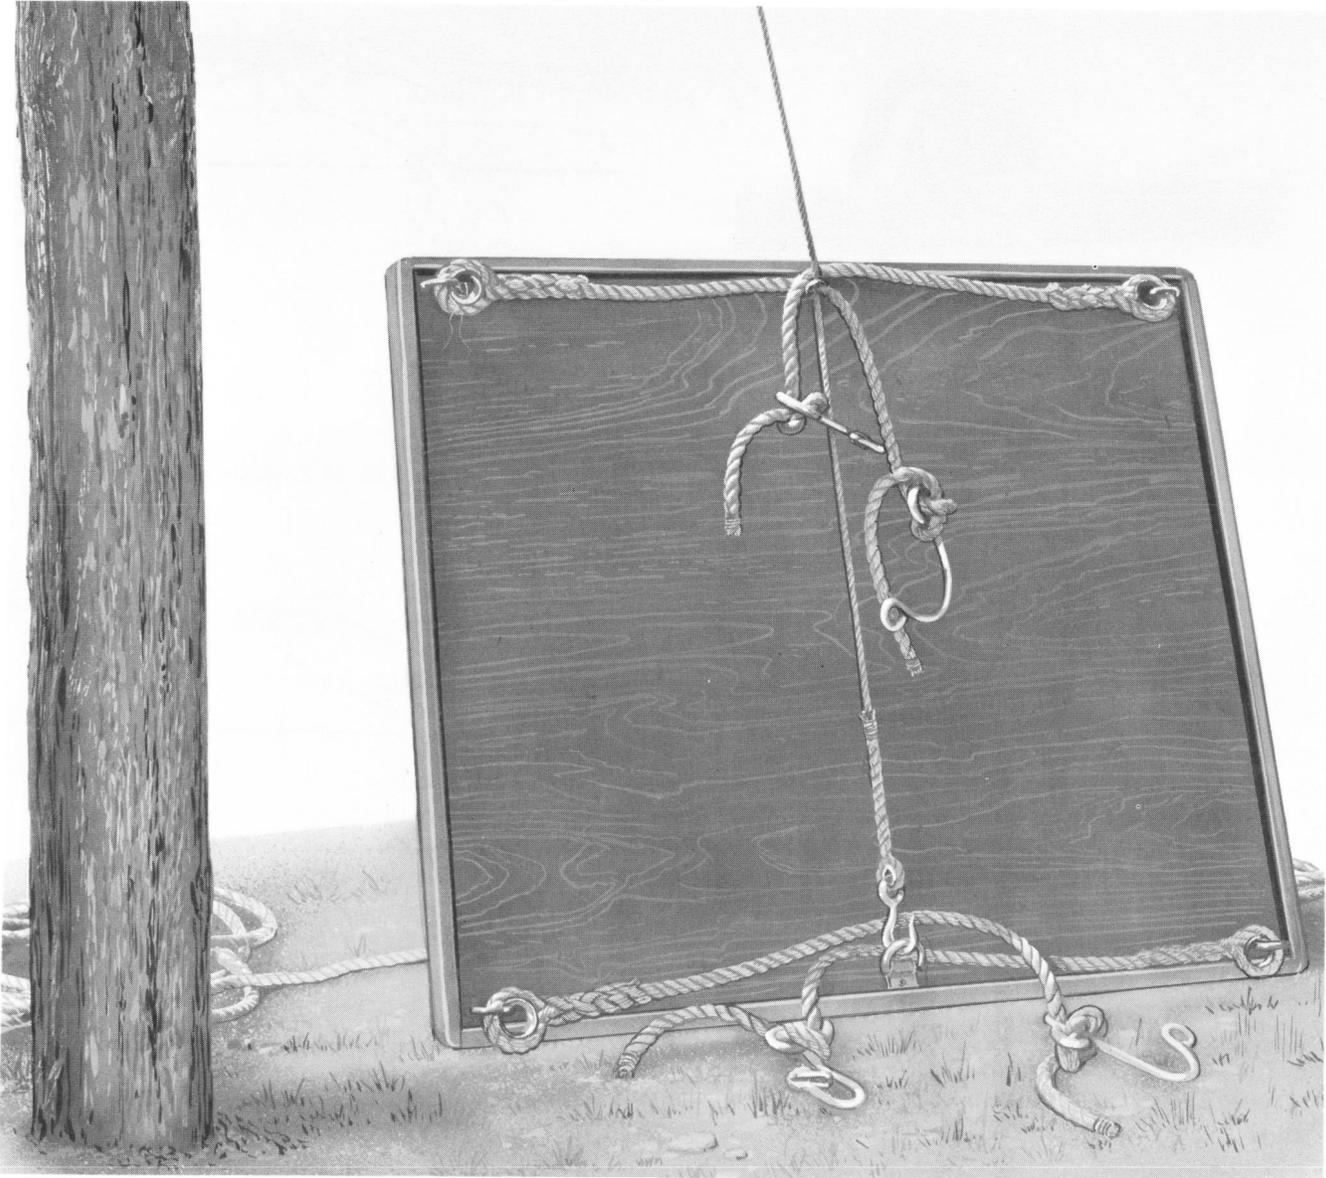

Fig. 3—Method of Placing Ropes and Handline E Platform
handline placed for raising are shown in Fig. 3. The handline had previously been placed on the suspension strand as shown in Fig. 4. The E Aerial Platform is available in two sizes as shown in Table A.
- (a) Arrange support ropes, guy ropes, and handline as shown in Fig. 3.